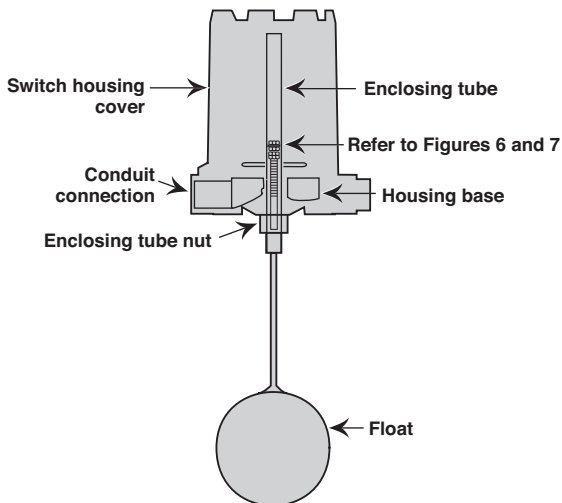

Figure 5
4. Disconnect power supply wires from switch mechanism. Pull wires out of conduit connection opening in housing base. Refer to Figure 5.
6. Remove switch housing assembly by loosening the enclosing tube nut, which is located immediately below housing base. Refer to Figure 5.